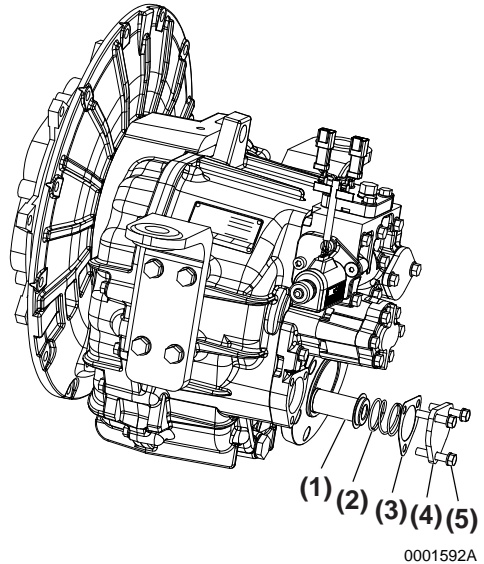
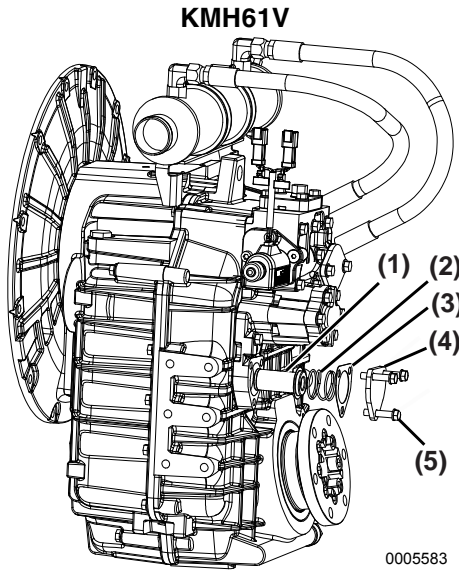

Figure 3
Figure 4
4. Remove three M8x40 bolts ((Figure 3, (2)), (Figure 4, (2))) and washers.
5. Remove the cover ((**Figure 3, (3)**), (**Figure 4, (3)**)), seal, spring ((**Figure 3, (4)**), (**Figure 4, (4)**)) and oil strainer ((**Figure 3, (1)**), (**Figure 4, (1)**)).
*Note: The oil strainer ((**Figure 3, (1)**), (**Figure 4, (1)**)) must be washed with clean oil whenever the oil is changed.*